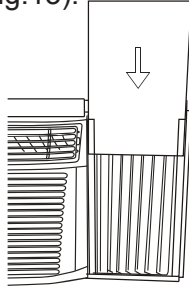

Fig.13
Step 3. Slide the R1 insulation panel into the side curtain, the side with pattern should face the indoor side. (Fig.13).